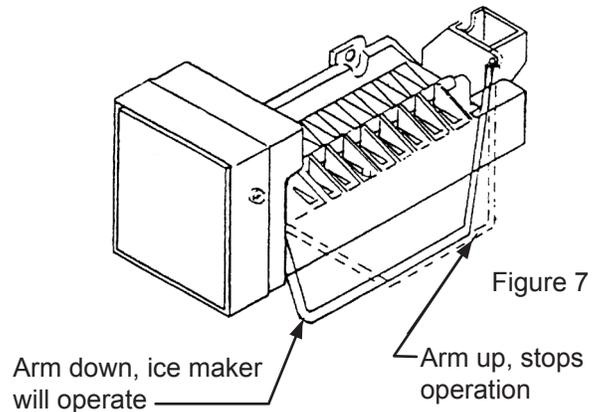

Figure 7
- The shutoff arm wire must be down in its lowest position for the ice-maker to operate. (See Figure 7).
- You may manually stop the ice-maker by raising the shut off arm to the locking position at the up most position. (See Figure 7).